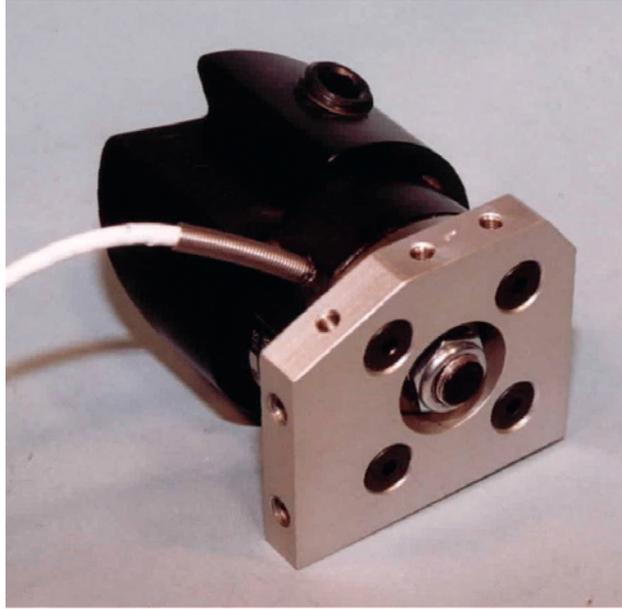

Figure 11.4- Orientation of socket adaptor to load cell
2. Insert the shaft of the Left Pelvic Socket Adaptor (T1PLM217) into the left acetabulum load cell. The orientation of the pelvic socket adaptor and the load cell is shown in **Figure 11.4**. Align the dowel pins holes of the load cell with the dowel pins in the socket adaptor. Insert the 1/2" ID flat washer onto the adaptor shaft. Use 1/2" nylon lock hex jam nut to secure the socket adaptor to the acetabulum load cell. Tighten securely to the torque range listed in section 2.1.3- Bolt Torque Values.